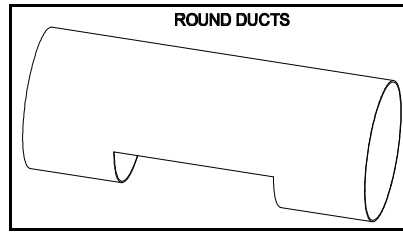

Figure 1A
2. Attach the self-adhesive template provided to the duct surface. Make sure the arrows on the template point in the direction of the desired air flow. After the template has been secured to the duct pipe, cut a slot in the pipe along the indicated lines on the template. Then remove the remainder of the template from the pipe. (See Figure 1A or 1B)